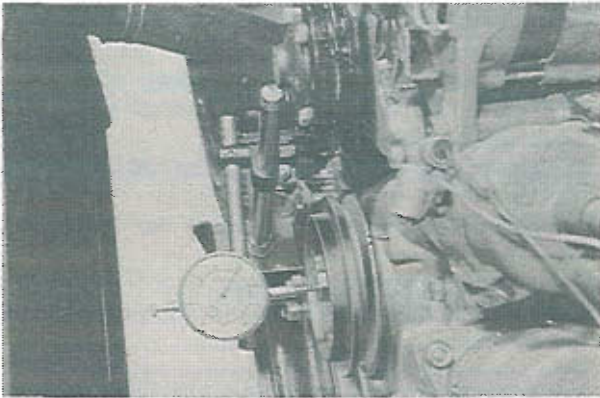

Fig. 1-7 Checking of eccentric shaft end play
12. Apply a dial indicator onto the eccentric shaft pulley as shown in Fig. 1-7. Move the pulley fore and aft, and take the reading of the indicator. The end play should be $0.04 \sim 0.07$ mm ($0.0016 \sim 0.0028$ in). If it is not within the limits, adjust it by means of grinding the spacer using the emery paper on the surface plate, or by replacing the spacer.